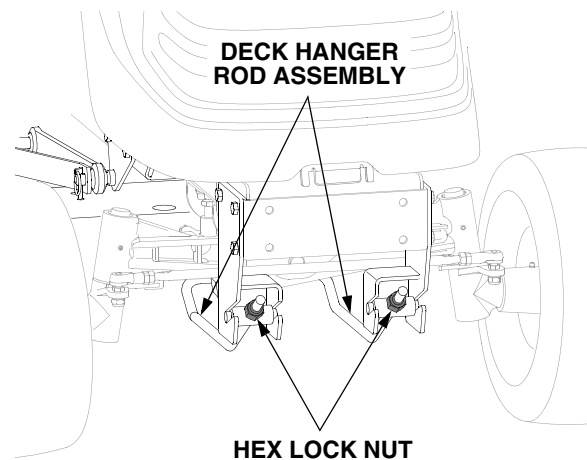

Figure 55
- If the front of the deck is too low, the deck hanger rod assembly must be shortened. From the front of the tractor, **evenly** turn the hex lock nuts clockwise to shorten the hanger rod assembly and raise the front of the deck. See Figure 55.
- If the front of the deck is too high, the deck hanger rod assembly must be lengthened. From the front of the tractor, **evenly** turn the hex lock nuts counterclockwise to lengthen the hanger rod assembly and lower the front of the deck. See Figure 55.